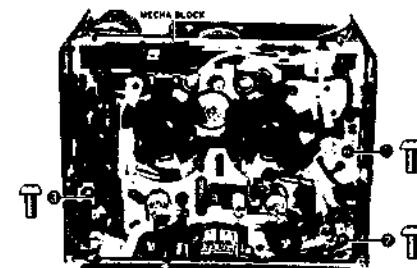

Fig. 3-7
- 3) Remove motor block securing screws ④, ④ and ④ from the mechanism block's front side. Remove the motor block from the mechanism block. (Refer to Fig. 3-7)